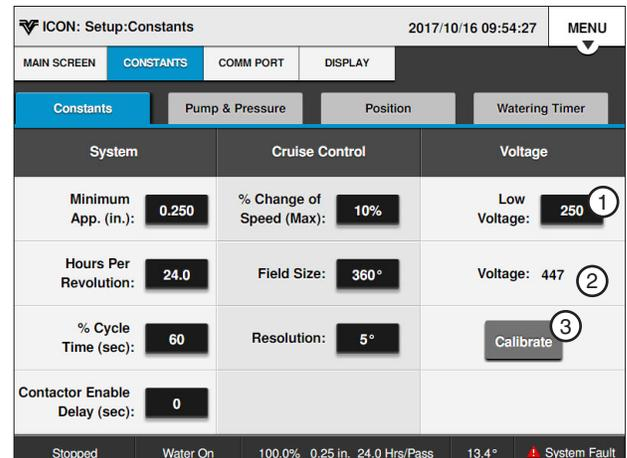

Figure 17-2 1. Low Voltage 2. Voltage 3. Calibrate
1. Push the **Menu, Setup, Constants** and **System/Voltage** to display the System/Voltage screen. Refer to Figure 17-2.